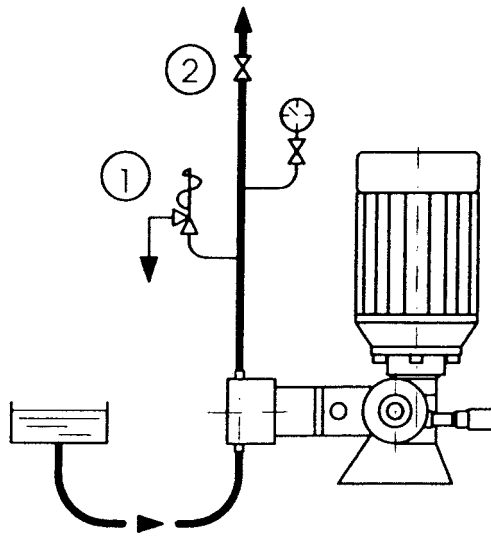

Fig. 12
- Install the safety valve as shown below (*Fig. 12*).